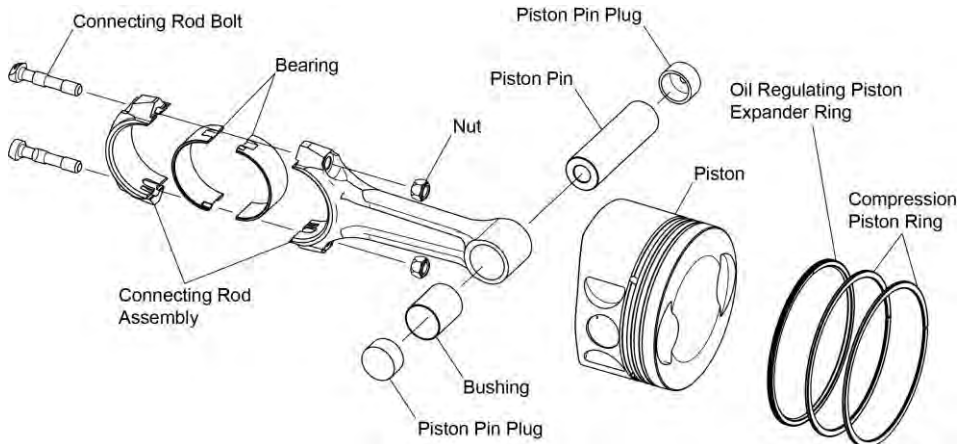

Figure 18
NOTICE: During removal of each piston pin (Figure 18), the piston will disconnect from the connecting rod.
- A. Support the piston and remove the two piston pin plugs (Figure 18) and piston pin from the piston.
- D. Start from the top down, use the a commercially available piston ring expander tool to remove the two top compression rings and the oil regulating piston expander ring (Figure 18).